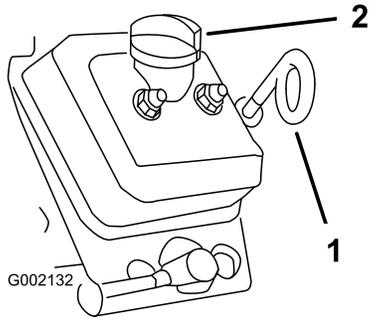

Figure 35
- Use a rag to clean the area around the oil dipstick and fill cap (Figure 35) so that dirt cannot fall into the dipstick tube or oil-filler neck and damage the engine.
- Remove the oil dipstick and wipe the end clean (Figure 35).
- Slide the oil dipstick into the dipstick tube fully seating it (Figure 35).
- Install the fill cap (Figure 35).
- Install the oil dipstick and firmly seat it (Figure 35).